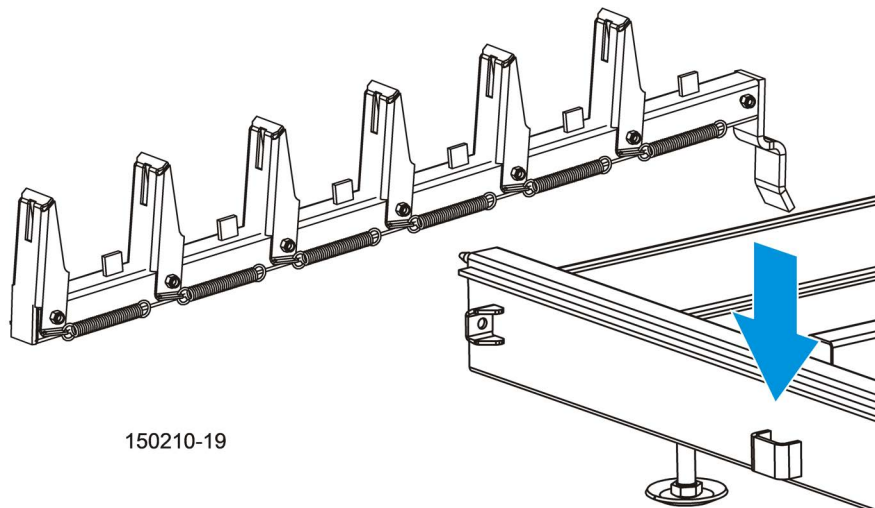

FIG. 6-1
4. Place the **optional** loading ramps* (part number 015804) in the frame brackets that will evenly support the length of the log- See FIG. 6-1..